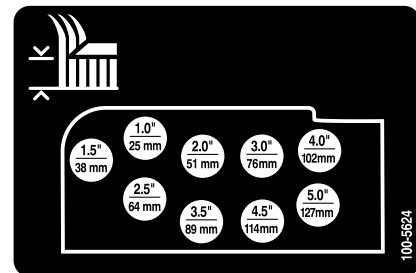

Figure 22
9. Mount the height-of-cut chains to the desired height-of-cut hole with the clevis pin and hairpin cotter (Figure 22).